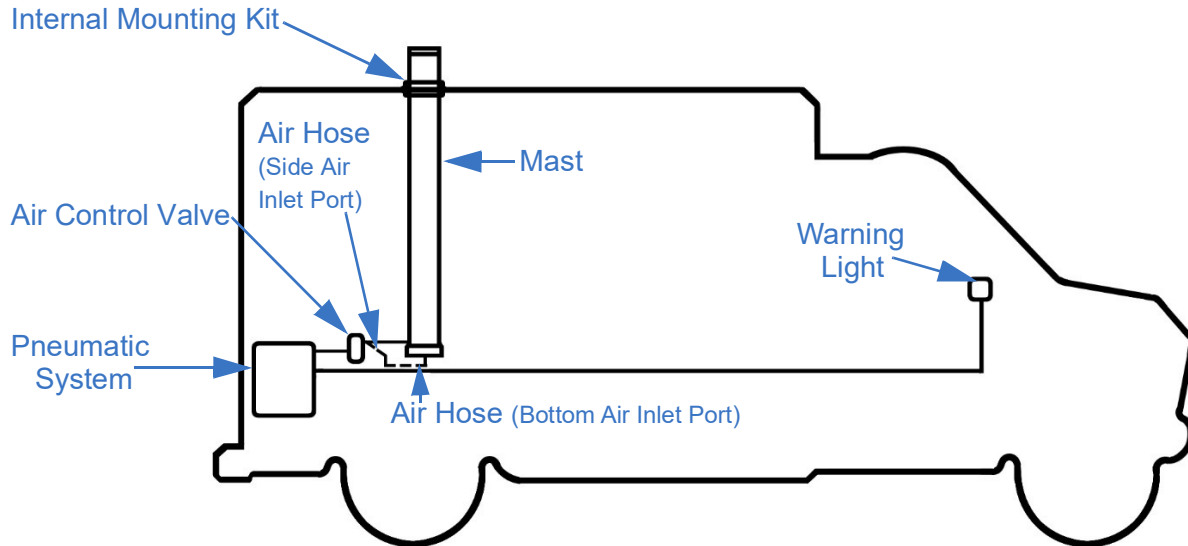

*Figure 5-2 Hoist the Mast*
4. Using the center of gravity (COG) label as a reference, outfit the mast with a sling capable of supporting the mast weight (Figure 5-2). The sling must support the mast from at least two points. Attach the sling so that horizontal balance and control can be maintained while positioning the mast. Hoist and slowly lift the mast until just free of the mast saddles. Lower the mast and adjust the sling as necessary to balance the mast. Hoist the mast free from the crate and carefully move the mast into the desired position.